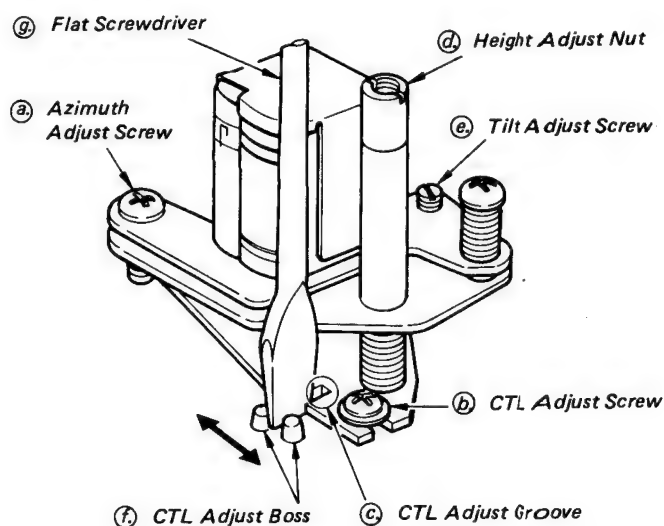

Fig. 5-128 CTL Adjustment
2. Adjust the nut (d) to obtain the maximum level of the audio by a half quarter turn (see Fig. 5-128).
#### 34-7. CTL Position Adjustment (see Fig. 5-128)